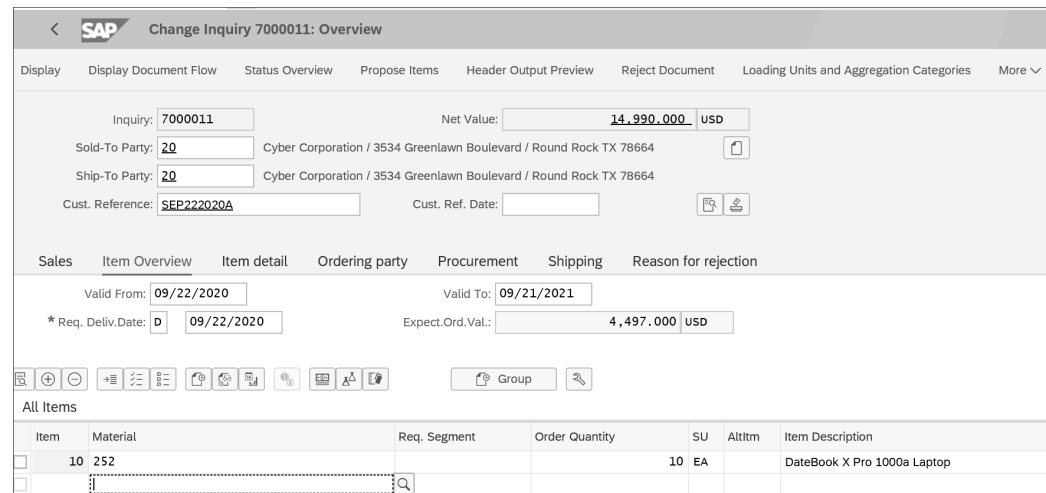

Figure 4.40 Change Inquiry Overview: Changing the Customer Number
4. Because there are no subsequent documents, all fields can be changed. Change the customer to “20” in both the **Sold-To Party** and **Ship-To Party** fields, and then press **Enter** to see the results in Figure 4.40.